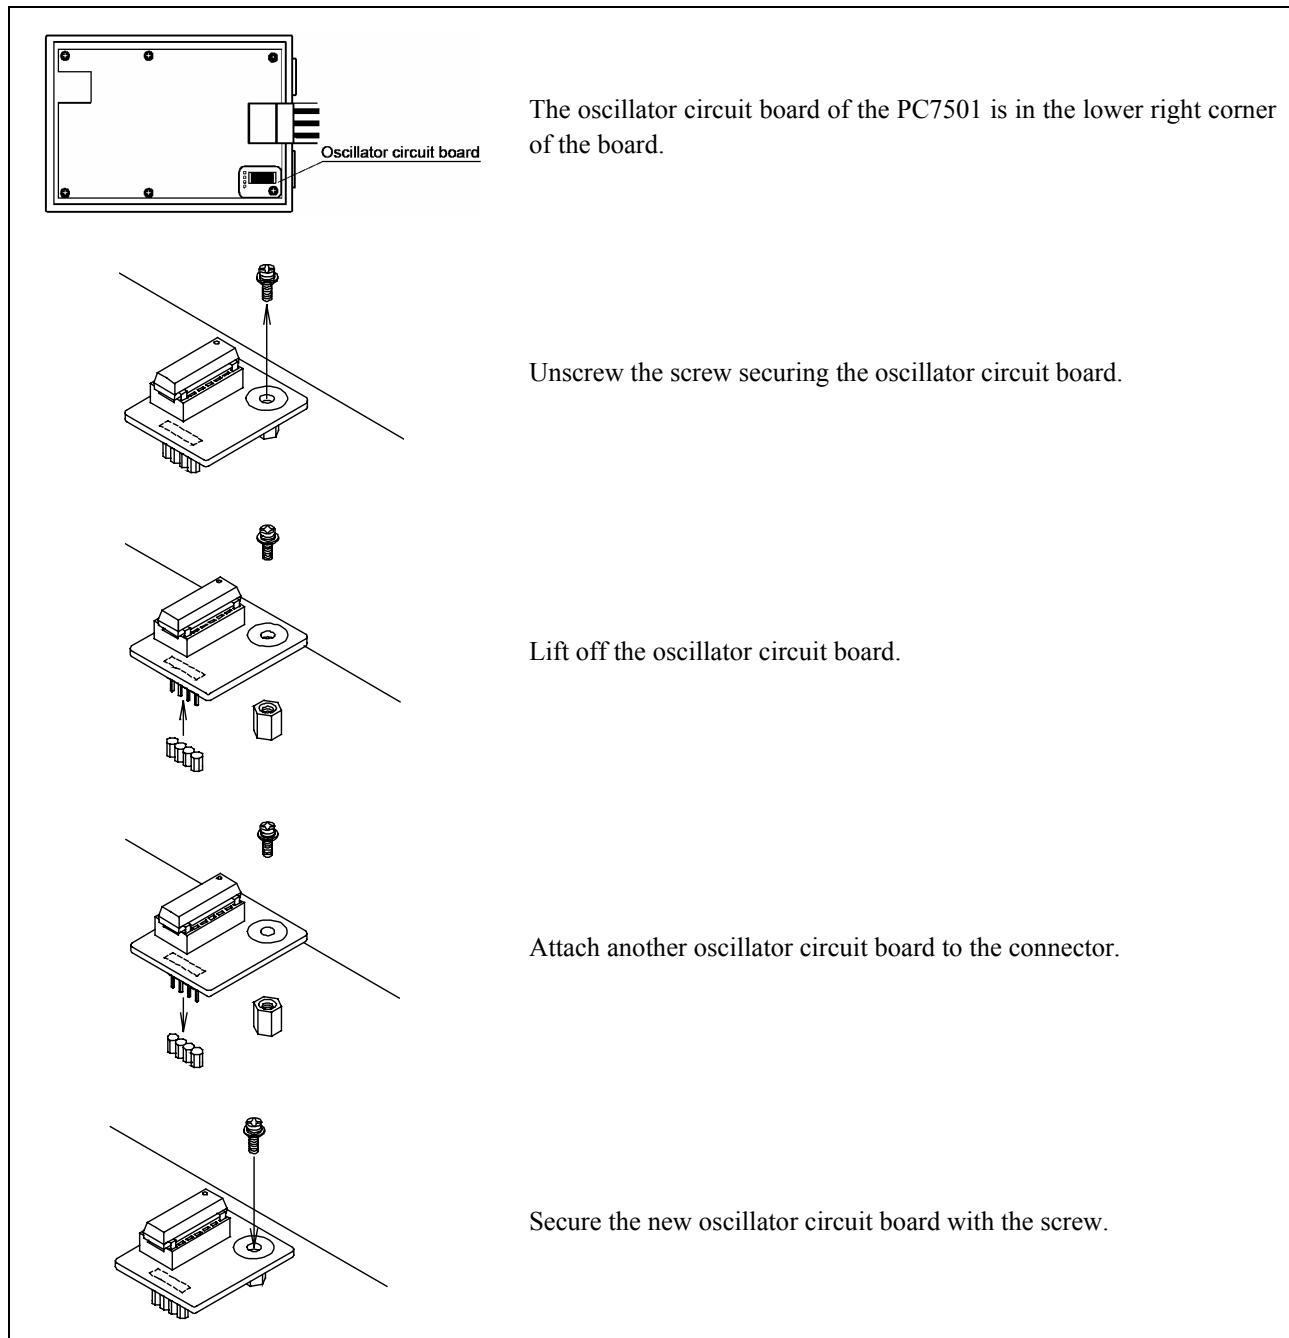

Figure 3.2 Replacing the oscillator circuit board
2. Replace the oscillator circuit board (see Figure 3.2).